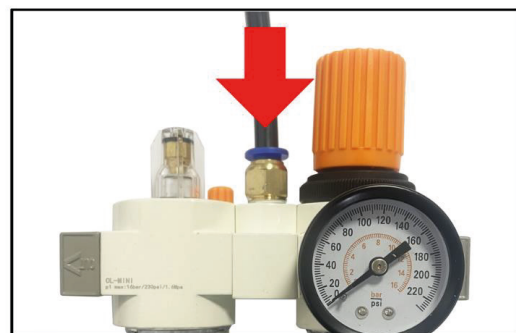

FIG12
3.3.1 Connect air hose: Remove the connect of on the 08 PU hose on the lateral side of the body. This connect is equipped for avoid the air hose from sliding into the body. And plug into the air source connector. See FIG12